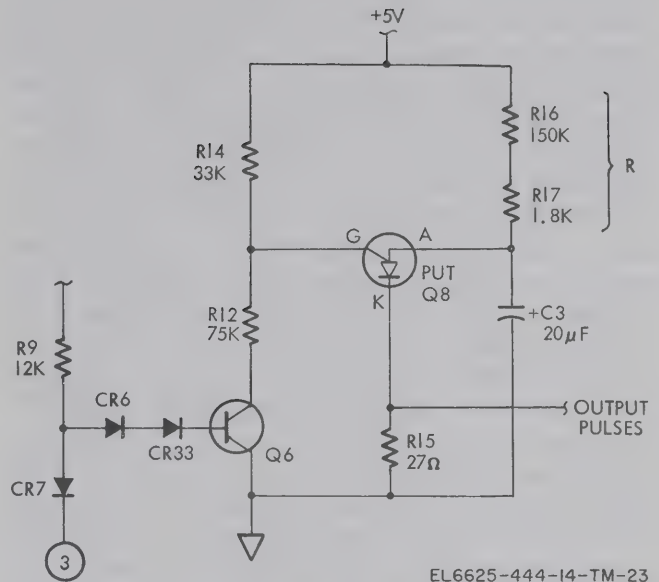

Figure 5-6. Basic sample command oscillator.
e. The sample command oscillator (SCO) consists of programmable unijunction transistor (PUT) Q8 and surrounding circuitry shown in figure 5-6 in its normal operating state. Resistors R12 and R14 provide a bias level for the gate of the PUT. When capacitor C3 charges to approximately 0.6 volt above the gate bias level, the PUT turns on and discharges C3 through R15. This action generates an output pulse which commands the measure/storage cycle J-K flip-flop U3A to the measure period to take a sample, if the end of a ZERO pulse is coincident at the clocked input to the flip-flop. If the sample results in a command to autorange, signal 3 from the range delay (A2) one-shot turns off Q6 and disables the SCO to allow time for analog signal conditions to settle on the new range before another sample is taken. Capacitor C3 begins to recharge and the SCO cycle begins again. The oscillator frequency is dependent upon the time constant of R and C3, and the gate bias level. The frequency is varied by the adjustment of R through the front panel SAMPLE RATE control. Transistor Q7 and its base bias network (R11 and R13) insure that PUT Q8 is turned off by forcing the gate and anode to the same potential after C3 discharges.